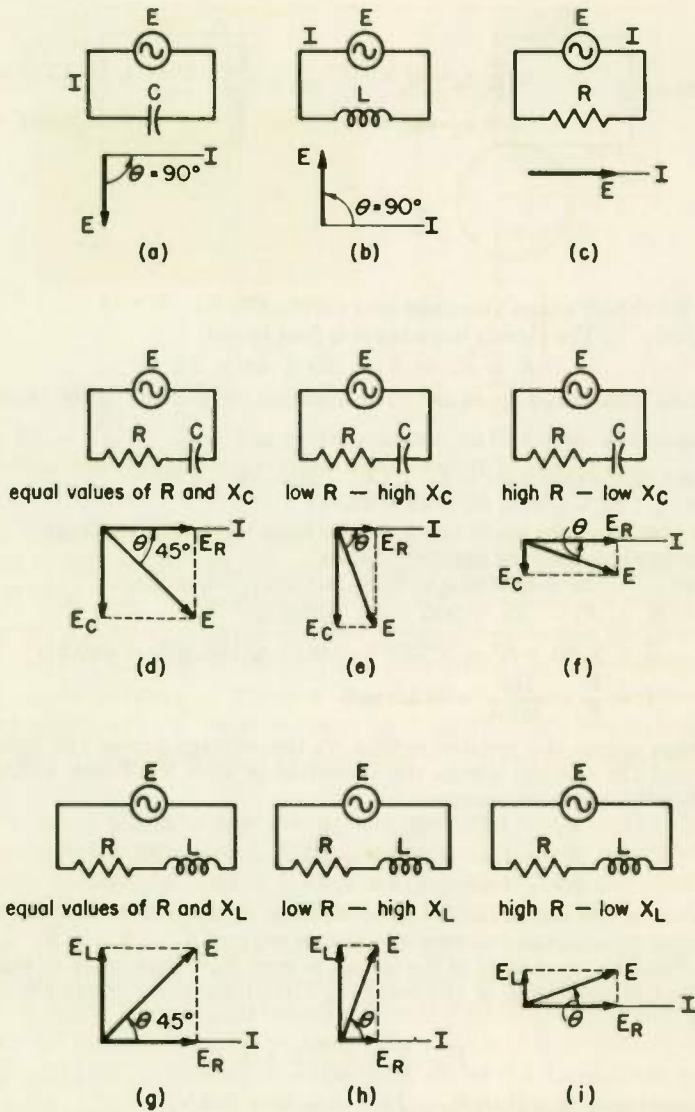
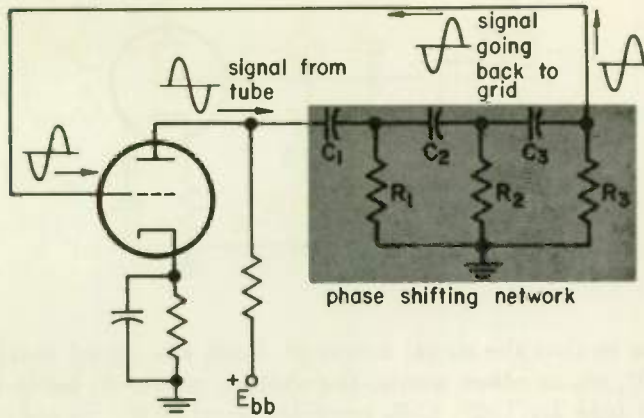

Fig. 42 How relative values of X and R affect phase shift.
Fig. 43 Use of phase-shifting RC networks in a phase-shift audio oscillator.
10 PHASE SHIFT IN RL AND RC CIRCUITS . . . Diagram (a) of Fig. 42 reviews the fact that, when a voltage source is connected across
to keep the current and voltage in phase and the reactance tries to shift the voltage 90° with respect to the current. The result of this tug-of-war action is a phase shift somewhere between 0° and 90° . If R and X are of equal value, the applied voltage leads or lags the current by 45° , as shown in Fig. 42(d) and (g). When X is greater than R , the angle between applied voltage and current is greater than 45° , as shown in (e) and (h). When R is greater than X , the angle between applied voltage and current is less than 45° , as shown in (f) and (i).
Looking at the phasor diagrams in Fig. 42, we can make other observations about the phase relationships in the circuit. Remembering as always that phasors revolve counterclockwise, (d) shows that the voltage across R leads the applied voltage E by 45° in the RC circuit shown and the voltage across C lags the applied voltage by 45° . RL and RC circuits are often used for the specific purpose of shifting the phase of a signal. Although the maximum phase shift possible from a RL or RC network is less than 90° , a larger phase shift can be obtained by using additional RL or RC networks in tandem. The three RC 's in Fig. 43 shift the phase of the signal from the tube by 180° . As a result, the signal going back to the grid from the output of the phase-shifting network is completely out of phase with the signal from the plate of the tube. The tube will not oscillate (generate an a-c signal) without this 180° phase shift.
The signal from the plate of the tube in Fig. 43 passes first through C_1R_1 in series. The relative values of C_1 and R_1 are so chosen that the signal voltage across R_1 leads the signal voltage from the tube by 60° . This voltage across R_1 is applied to C_2R_2 in series. C_2R_2 in turn shifts
2. Figure 42(h) shows that, in an RL circuit in which X_L is greater than R , the voltage across R (a) (leads) (lags) the applied voltage by (b) (less than 45°) (more than 45°). The voltage across L (c) (leads) (lags) the applied voltage by (d) (less than 45°) (more than 45°).
4. Circuit C_1R_1 in Fig. 43 will provide a 60° phase shift at (a) (just one frequency) (any frequency). For the oscillator to work, the total phase shift must be exactly 180° . The oscillator can work (b) (at just one frequency) (any frequency).
1. R is much greater than X_C . . . See Fig. 42(f).
5. 45 . . . See Fig. 42(g).